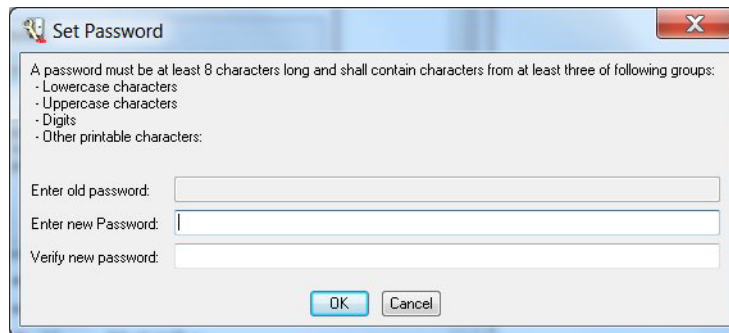

Figure 44. Password dialog box
2. Click **Set Password**. The Password dialog opens, see Figure 44.